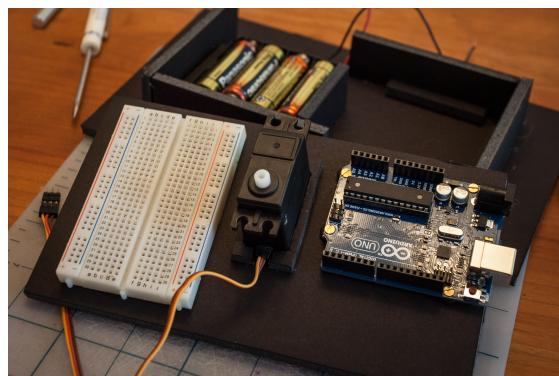

Figure 7-2 The mounting board showing the servo cozy and components
- Mount the mini breadboard on the opposite side of the servo, approximately centered in the available space. See Figure 7-2.